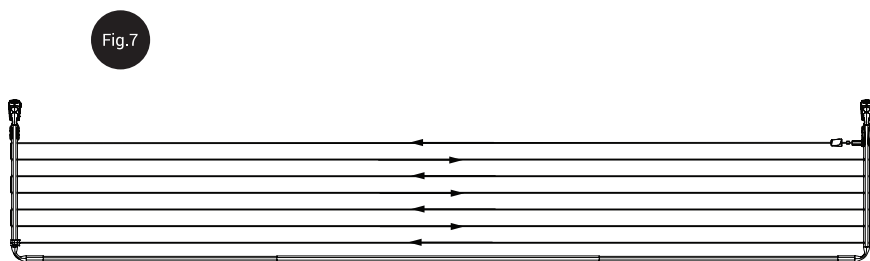

Fig.7
- 3.2 Feed the line through the clothesline in alternating directions keeping tension as you go. (Figure 7)